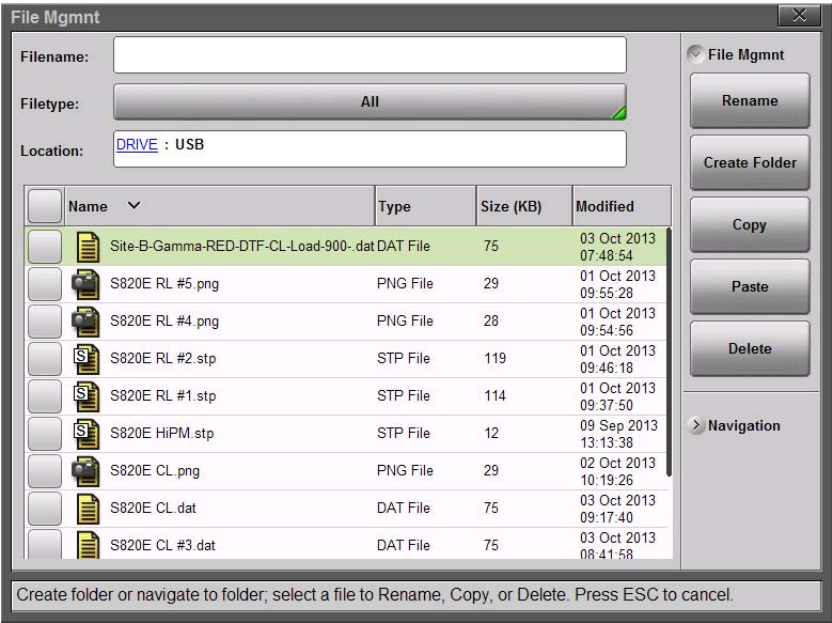

Figure 10-17. Files Pasted to the External USB Drive
6. Select Paste to copy the selected files and folders from Internal memory to the USB drive (Figure 10-17 on page 10-21).